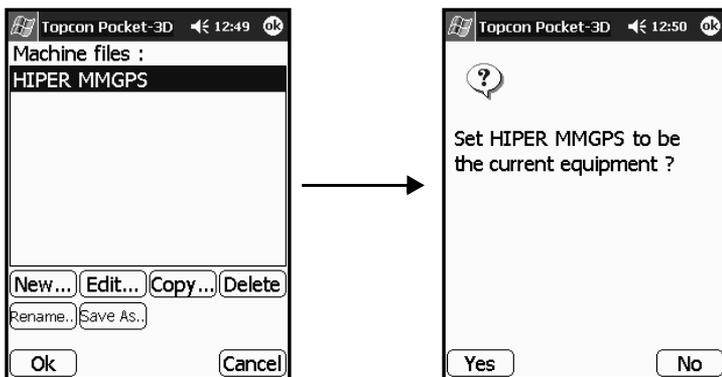

Figure 2-5. Select Equipment Configuration
8. On the **Equipment configuration** dialog box, select the new or edited configuration file, and press **Ok** to continue (Figure 2-5).
9. Press **Yes** to apply the configuration file as the current equipment (Figure 2-5).